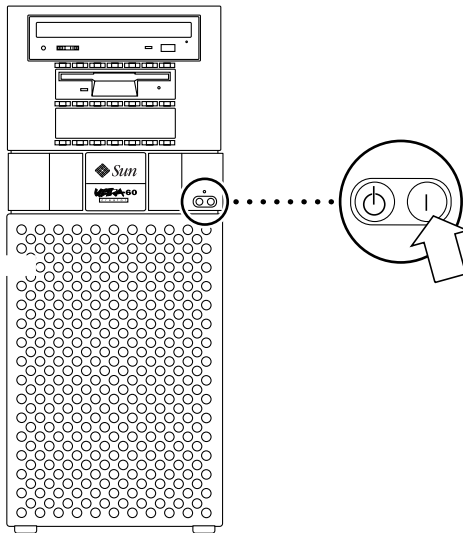
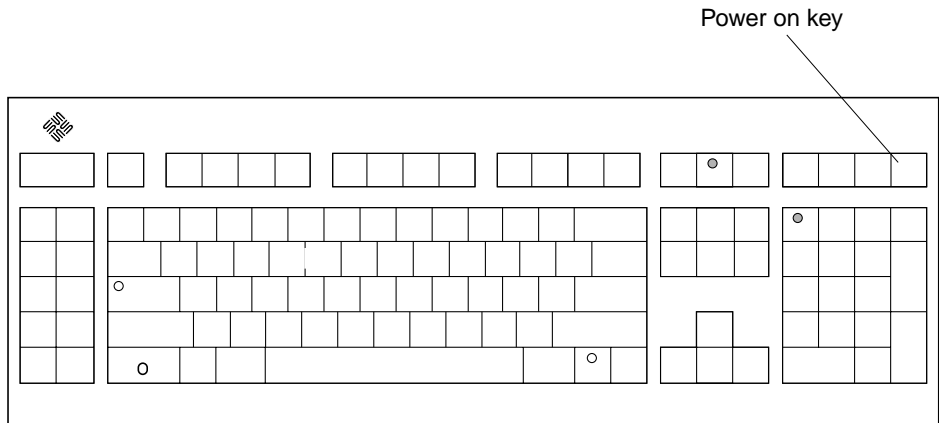

FIGURE 6-1 System Unit Power-On (Front Panel)
FIGURE 6-2 Sun Type-5 Keyboard
3. Set the front panel power switch to the On position (FIGURE 6-1) or press the Sun Type-5 keyboard power on key (FIGURE 6-2).